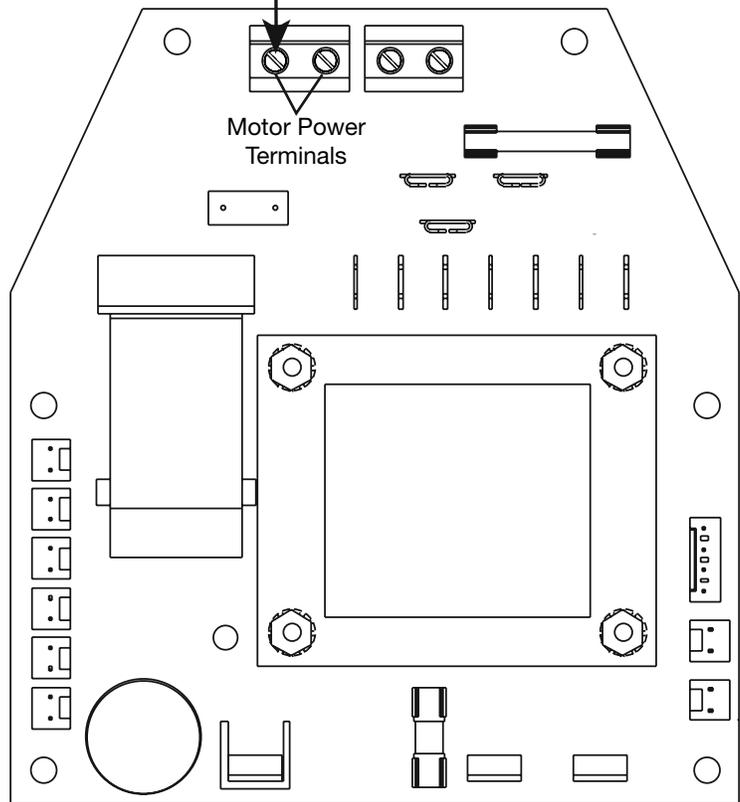

Figure 9, Connection to Power Board - 115V and 230V Fans (LCD equipped pumps only)
- c. Connect the fan wire with the pin connector to the left-hand motor power terminal on the power board. See Figure 9.